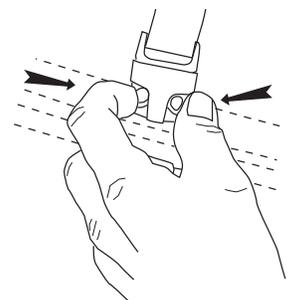

FIGURE 5
1. Unbuckle both retention straps located on the top of the cover behind the cab and snap into stored position. See Figure 5.